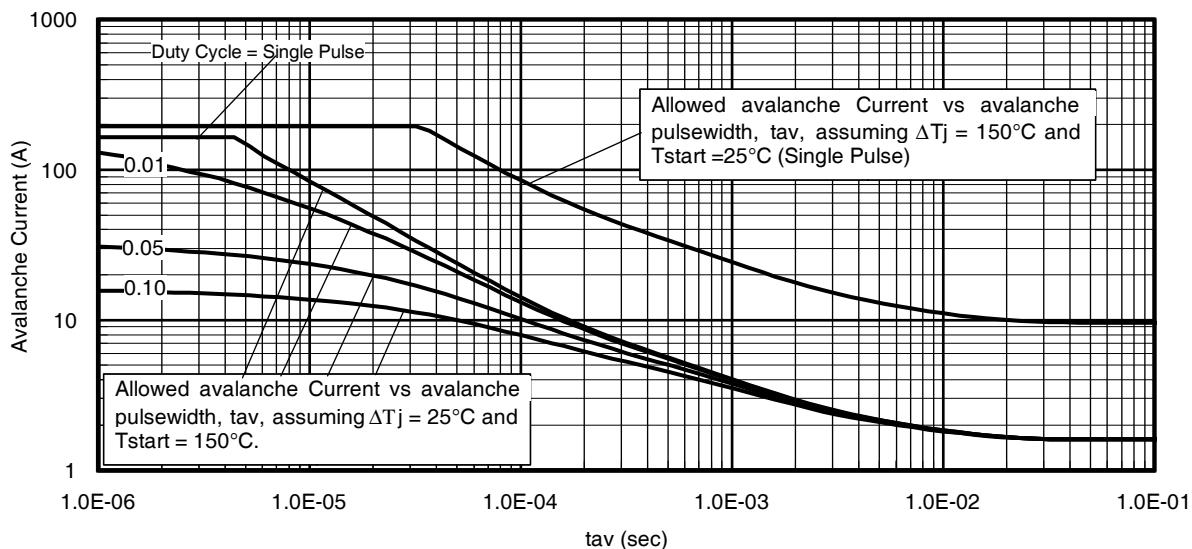

Fig 14. Typical Avalanche Current vs.Pulsewidth
- ① Calculated continuous current based on maximum allowable junction temperature Bond wire current limit is 195A. Note that current limitation arising from heating of the device leads may occur with some lead mounting arrangements.
- ② Repetitive rating; pulse width limited by max. junction temperature.
- ③ Limited by $T_{J\text{max}}$, starting $T_J = 25^\circ\text{C}$, $L = 0.021\text{mH}$ $R_G = 25\Omega$, $I_{AS} = 165\text{A}$, $V_{GS} = 10V$. Part not recommended for use above this value.
- ④ $I_{SD} \leq 165\text{A}$, $\text{di/dt} \leq 430\text{A}/\mu\text{s}$, $V_{DD} \leq V_{(\text{BR})\text{DSS}}$, $T_J \leq 175^\circ\text{C}$.
- ⑤ Pulse width $\leq 400\mu\text{s}$; duty cycle $\leq 2\%$.
- ⑥ $C_{oss \text{ eff. (TR)}}$ is a fixed capacitance that gives the same charging time as C_{oss} while V_{DS} is rising from 0 to 80% V_{DSS} .
- ⑦ $C_{oss \text{ eff. (ER)}}$ is a fixed capacitance that gives the same energy as C_{oss} while V_{DS} is rising from 0 to 80% V_{DSS} .
- ⑧ When mounted on 1" square PCB (FR-4 or G-10 Material). For recommended footprint and soldering techniquea refer to application note # AN- 994 echniques refer to application note #AN-994.
- ⑨ R_θ is measured at T_J approximately 90°C .
- ⑩ Limited by $T_{J\text{max}}$, see Fig. 14, 15, 22a, 22b for typical repetitive avalanche performance.
- ⑪ $R_{\theta JC}$ value shown is at time zero.
Notes on Repetitive Avalanche Curves , Figures 14, 15:
7. ΔT = Allowable rise in junction temperature, not to exceed T_{jmax} (assumed as 25°C in Figure 14, 15).